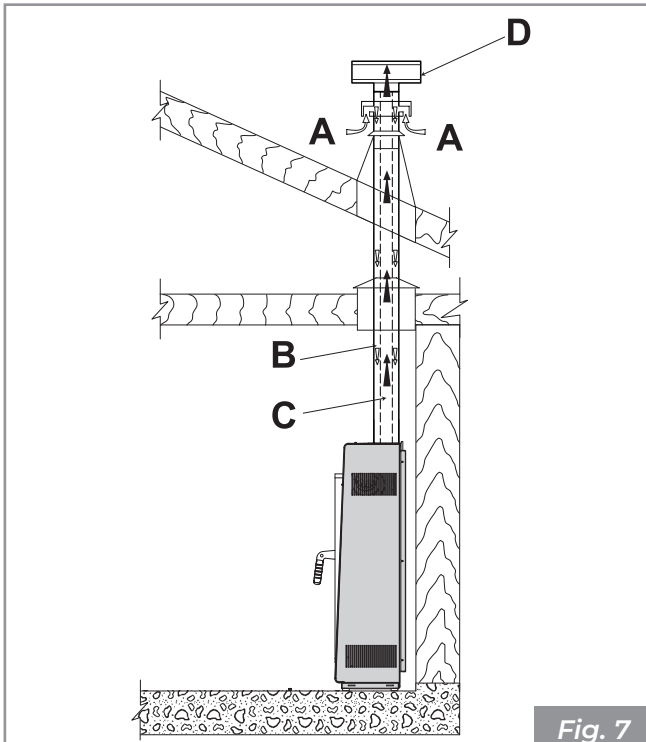
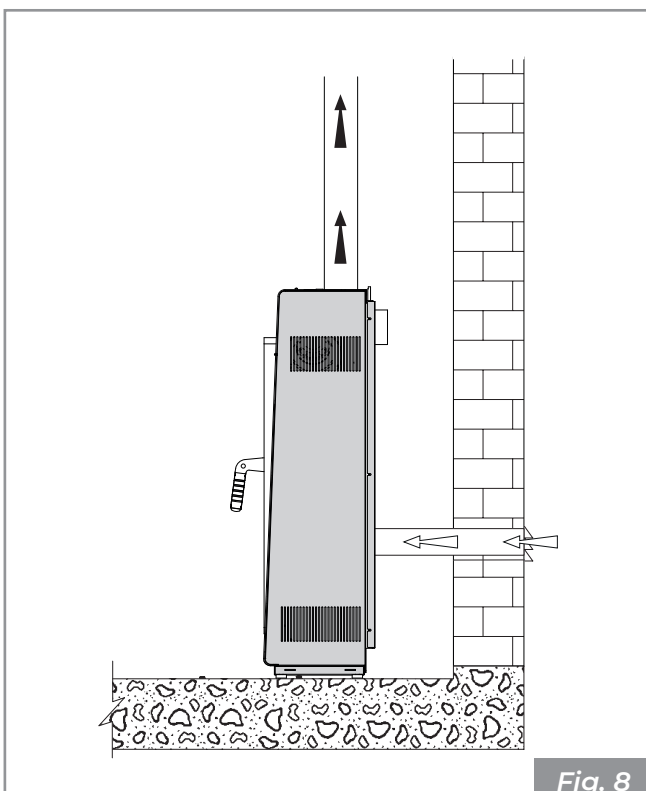

Fig. 7
Fig. 8
- coming directly from the outside with direct connection to the combustion chamber (Fig. 7 - Fig. 8).
- to channel the combustion air using a coaxial exhaust pipe to expel the fumes and to extract the air (**Fig. 7 - A, B = Air inlet, C, D = Smoke outlet**); it is therefore not necessary to create a tradition air intake in the room;
- connect the combustion air inlet of the appliance to the air intake with a suitable duct (**Fig. 8**).